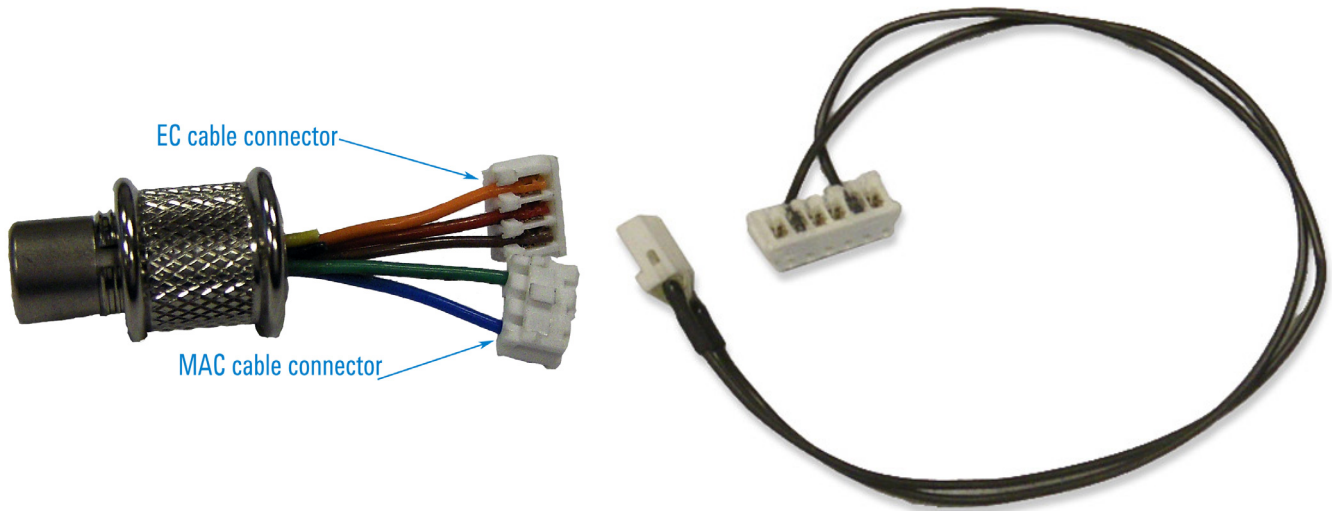
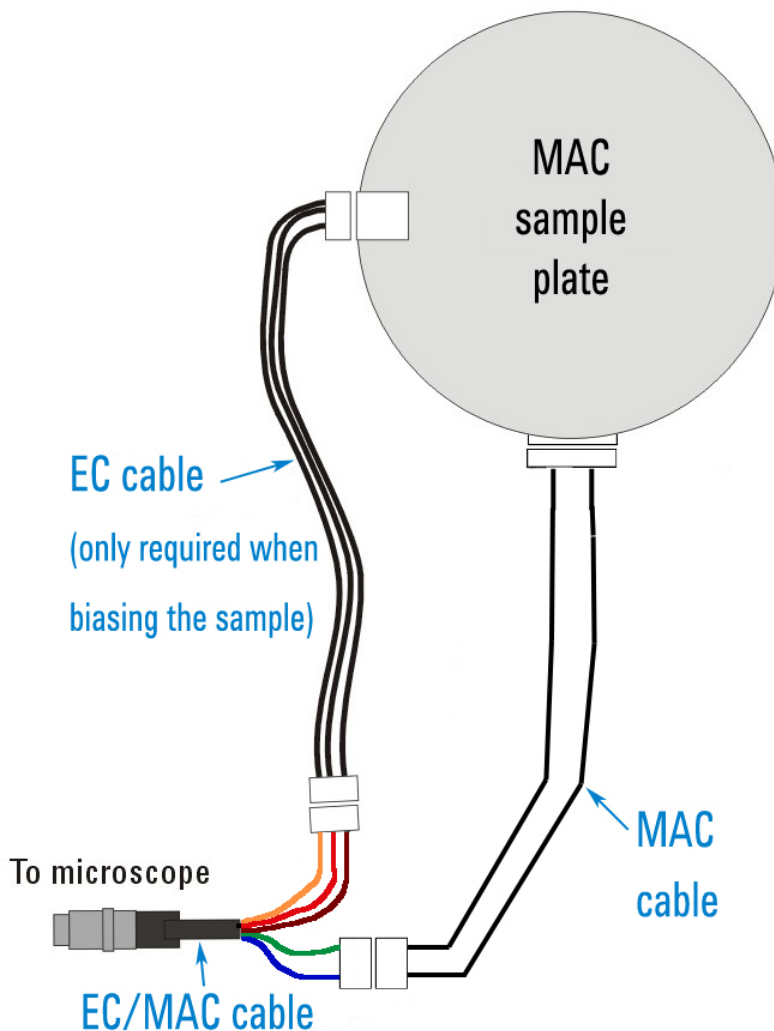

Figure 85 EC/MAC cable (left) and MAC cable (right)
Figure 86 Cable connections for MAC mode
- 2 Connect the MAC cable connector (blue and green wires) of the EC/MAC cable to the 3-pin connector on the MAC cable (Figure 85). Connect the MAC cable to the 6-pin connector on the sample plate as shown in Figure 86 on page 126.
- 3 If a sample bias is needed, connect the EC cable connector to the EC cable connected to the 3-pin connector on the MAC sample plate, as shown in Figure 86.